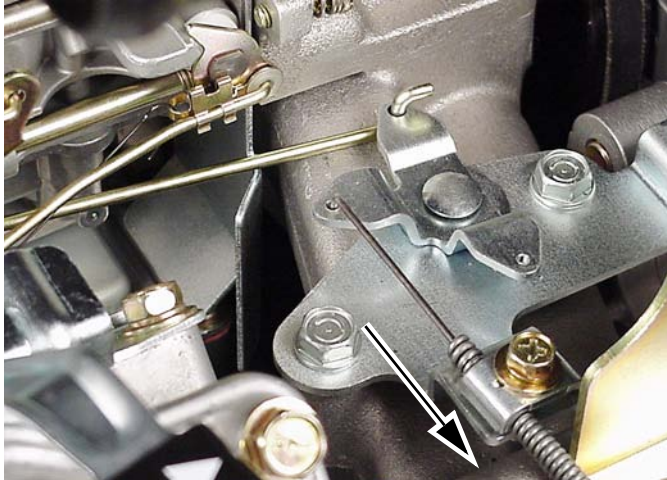

Fig. 184
3. Move control casing and wire in direction shown by arrow until governor control swivel is at end of travel, Fig. 184.